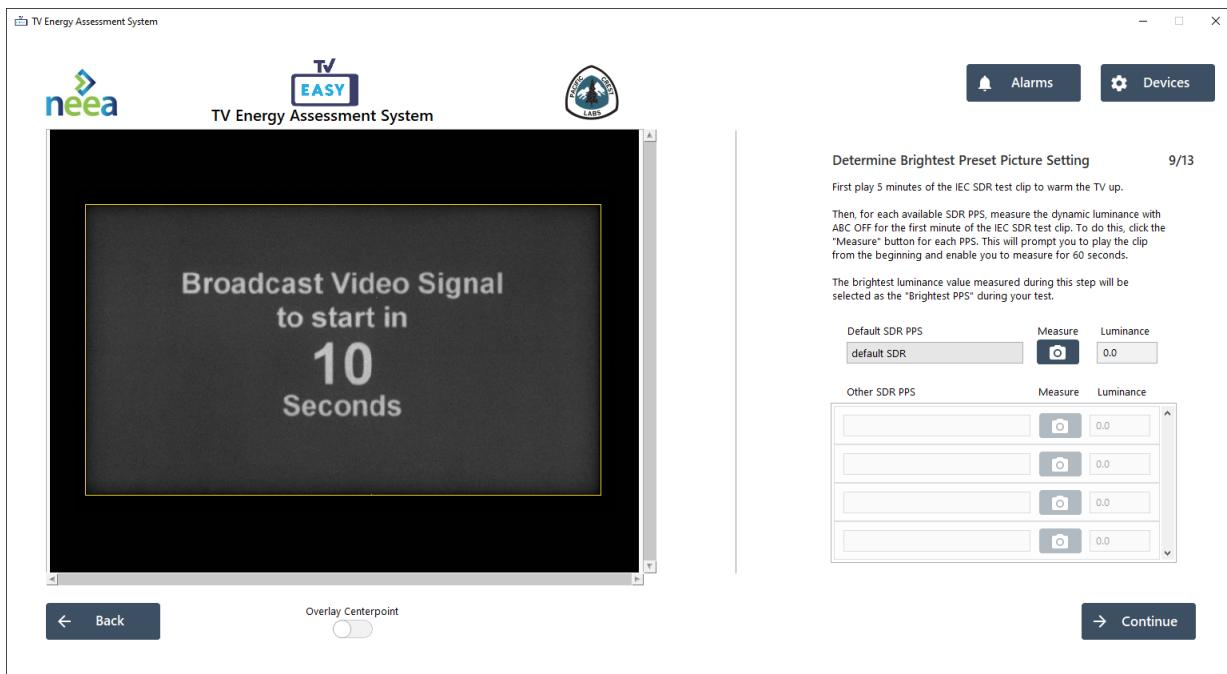

Figure 31: Measure luminance of each non-HDR PPS
To determine the brightest SDR PPS, the dynamic luminance of each PPS needs to be measured (Figure 31).
3. Play *IEC\_Broadcast\_resolution\_5994p\_SDR\_HEVC\_AAC.MP4* and click the “Measure” button to the right of the PPS you entered per Figure 31.